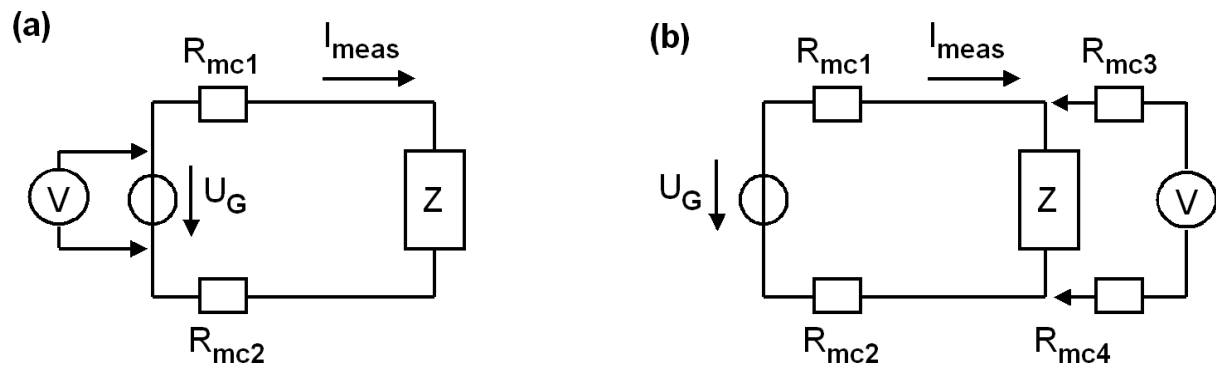

Fig. 3.3.1 (a): 2-wire (Bode100: “One-Port”) and (b) 4-wire (“Shunt-Thru”) measurement
2. Subsection 3.3.2 measures small values of Z with a 2-wire measurement technique that *Omicron* calls “*One-Port Impedance Analysis*“, according to Fig. 3.3.1(a): The voltmeter measures also the measurement-cable resistors R_{mc1} and R_{mc2} with high current load.
3. Subsection 3.3.3 measures Z with a 4-wire measurement technique that *Omicron* calls “*Shunt-Thru Impedance Analysis*“, according to Fig. 3.3.1(b): The voltmeter measures Z more precisely, as the 2 additional wires R_{mc3} and R_{mc4} carry very low current.